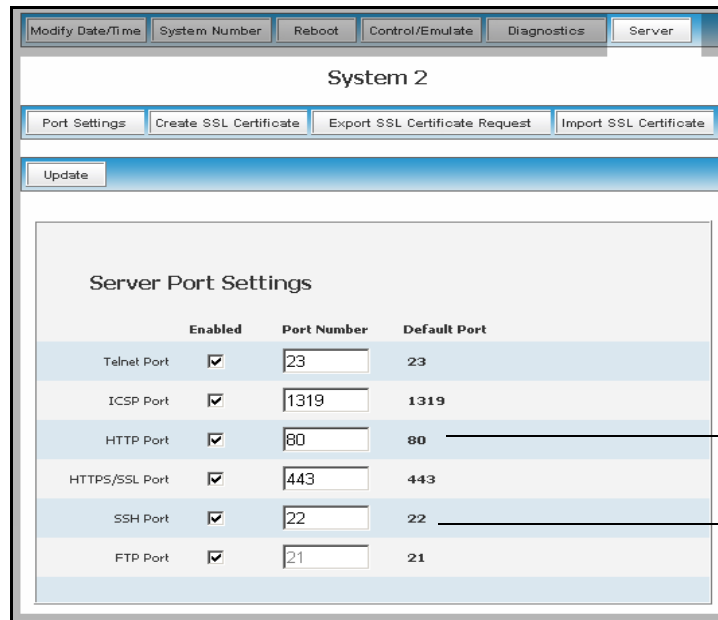

FIG. 54 Server dialog and associated submenu options
3. Click the **Server** button to open the Server dialog and its associated submenu options (FIG. 54).
1. From within the Server submenu, press the **Port Settings** button to open the Server Port Settings dialog seen above in FIG. 54.